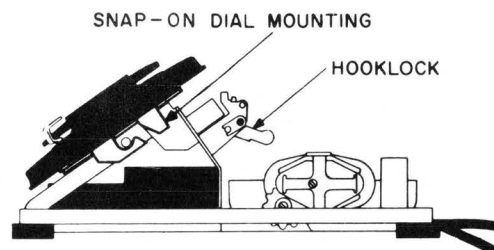

Figure 7. Hooklock and dial mounting.
3.2 When working inside the telephone, press the hookswitch actuating lever (hooklock) down until the lever remains locked as shown in figure 7. This keeps the telephone transmission circuit off the line and the ringer on the line while the telephone is being worked on. When the housing is replaced, the actuating lever is unlocked automatically. This will restore the actuating lever to its normal position under the control of the handset operated cradle plungers.
telephone dial has a snap-on bayonet lug pin mounting as shown in figure 7. To remove the dial, press down on the dial and mounting plate. At the same time slide them down the frame until the lugs are disengaged from the pins. Then tip up the bottom of the dial to expose the wiring and the transparent dust cover over the springs.